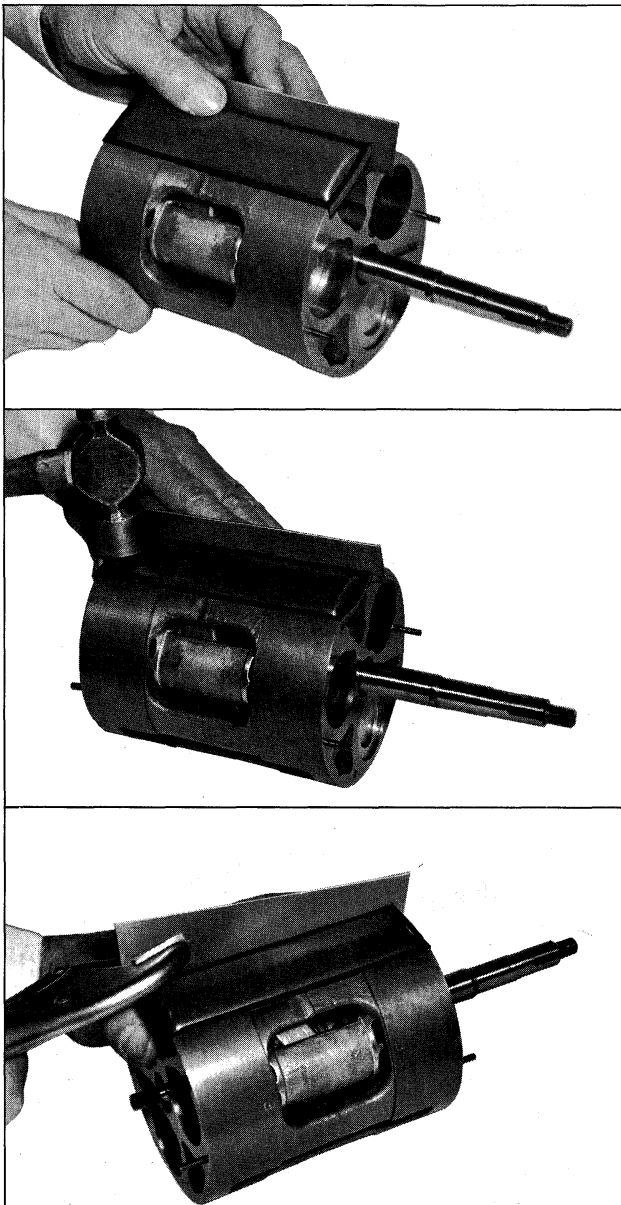

Fig. 5-30 Installing Suction Crossover and Seal
c. Use J-9433 suction crossover cover seal installer as a "shoehorn", by placing it between the gasket on opposite side and the "dovetail" slot (Fig. 5-30).